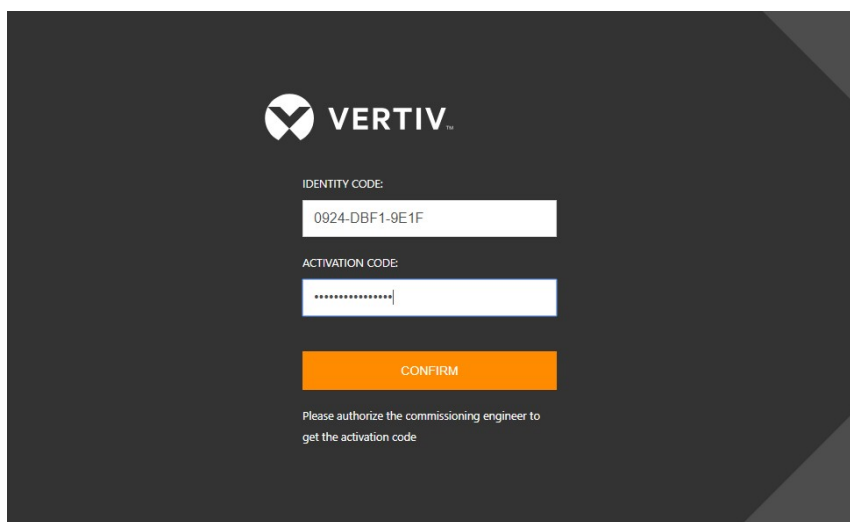

Figure 1-3 Activating RDU-M
1. Fill out the activation code and click **Enter**, as shown in Figure 1-3.